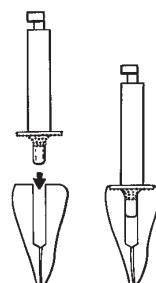
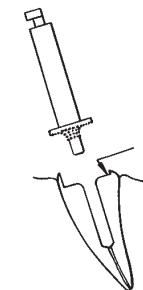

Fig. 2
Fig. 3
6. Spotface the root surface using the Diamond Bur (Zest order No. 8922) to a depth where a full 360 degree recessed seat first appears on the occlusal surface of the root. (Fig. 2) When making a countersunk preparation into a divergent root, the depth of the countersink will vary across the surface of the root. On the shallow side of the preparation, create the minimum possible recessed seat using the Spotface Diamond Bur. (Fig. 3)